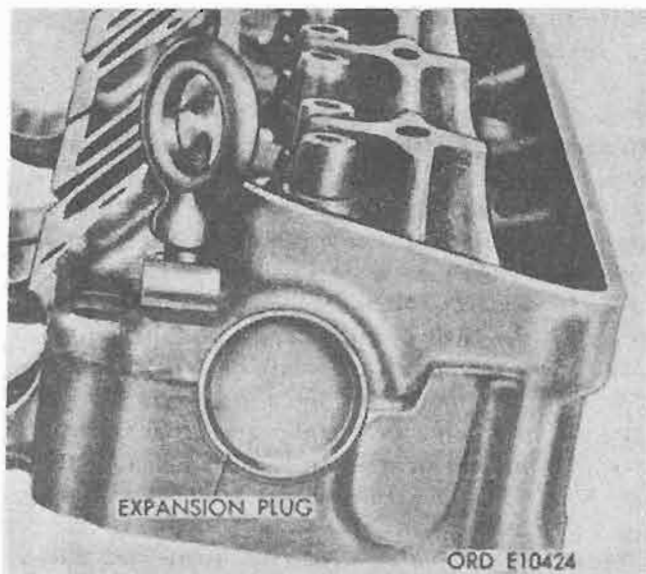

Figure 4-129. Expansion plug.
e. *Expansion Plug.* Check for leakage around expansion plug (fig. 4-129) by applying a pressure of 45 psi minimum to water jacket cavity. Replace if signs of leakage appear.